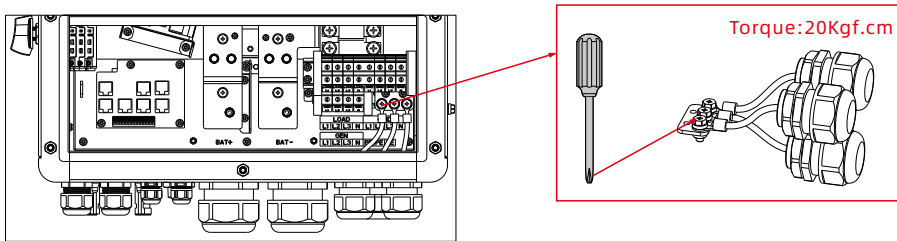

Fig 6.10 Grounding Schematic
2) Connect a ground cable to the copper grounding bar. Fig 6.10 shows the position of the grounding bar;